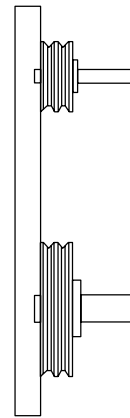
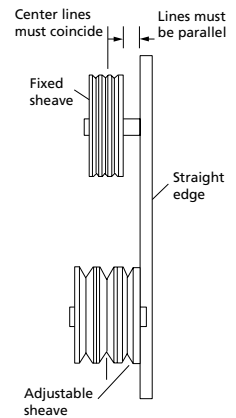

Figure 13: Equal sheave size alignment
Figure 14: Unequal sheave size alignment
4. Check the fan and motor sheave alignment using a straight edge along the outside edges of the sheaves for equal sized fixed sheaves as shown in Figure 13 and Figure 14 at time of start-up, after 24 hours of operation, monthly for the initial three months, then every three months thereafter. When properly aligned the straight edge should touch the full face of both sheaves. With one adjustable and one fixed sheave with unequal sizes, use a string placed at the center groove of both sheaves pulled tight to check alignment. Adjust sheaves for proper alignment and set screws to proper torque.